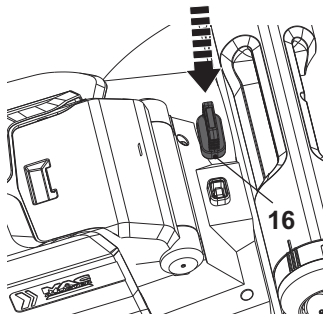
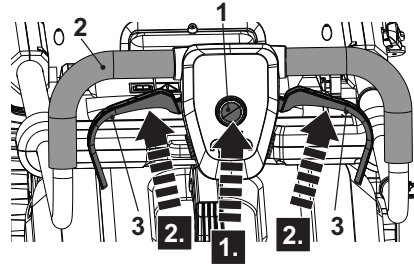

Fig. 18
Fig. 19
1. Install the battery pack (22) into the battery compartment.
2. Insert the safety key (16) into the slot fully (Fig. 18).
3. Stand behind the grip handle (2).
4. While holding the safety switch button (1) pressed (Fig. 19, step 1), pull the start levers (3) towards the grip handle (2) (Fig. 19, step 2).
5. After the mower starts, release the safety switch button (1).
7. Release the start levers (3) to stop the mower.